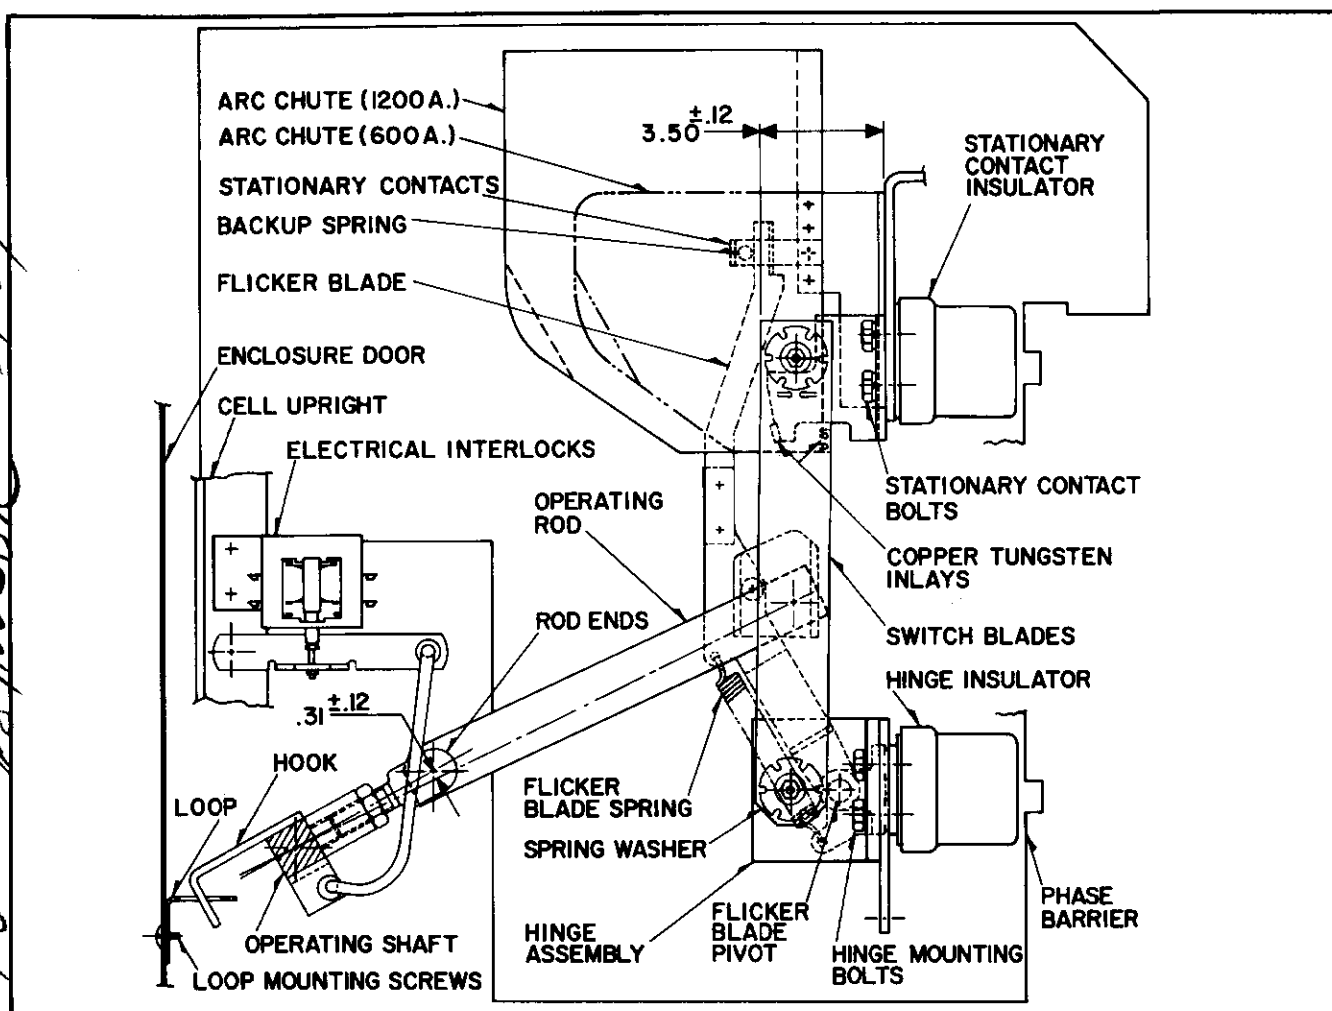

Fig. 10 General Assembly (Dwg. 3497C94)
8. The rod ends mounted on the square operating shaft should be adjusted so that all three main contacts touch within .12" of each other and the front edges of the switch blades should come to rest  $3.50" \pm .12"$  from the stationary contact mounting surfaces as shown in Fig. 10. In the CLOSED position, both contact projections on the main switch blades must engage the stationary contacts and the flicker blades must also have passed between their stationary contacts. When the switch is closed, however, the contact spring bolt assemblies should not come to rest tight against the shoulders on the stationary contacts and the flicker blades should not be tight against their stops.
- (b) When the switch is in the CLOSED position, a second pin in the operating gear segment must line up with the notch in the door interlock latch lever. The operating handle should not come to rest tight against the handle stop, and the switch operating linkage must pass dead center as shown in Fig. 10.